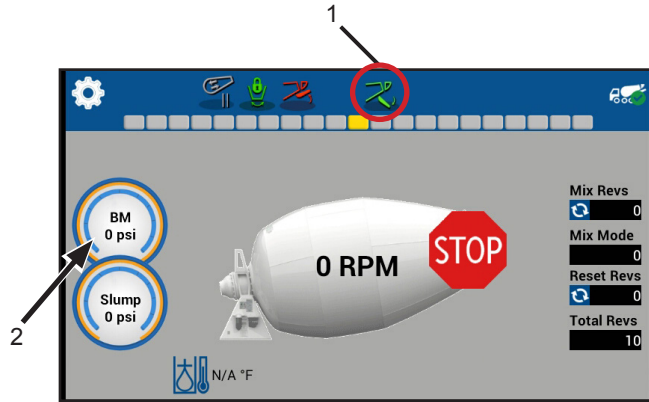

Figure 30
- a. Center and lower chute as required. Make sure the chute “lowered and centered” icon appears on the top row of the monitor display (Figure 30, Item 1) before commanding the Bridgemaster axle up or down.
- b. Use the PRV2 adjusting knob on the Bridgemaster to dial in the proper pressure for the load being transported. The BM PSI gauge on the screen (Figure 30, Item 2) should change according to the pressure dialed in on the PRV2 adjusting knob.